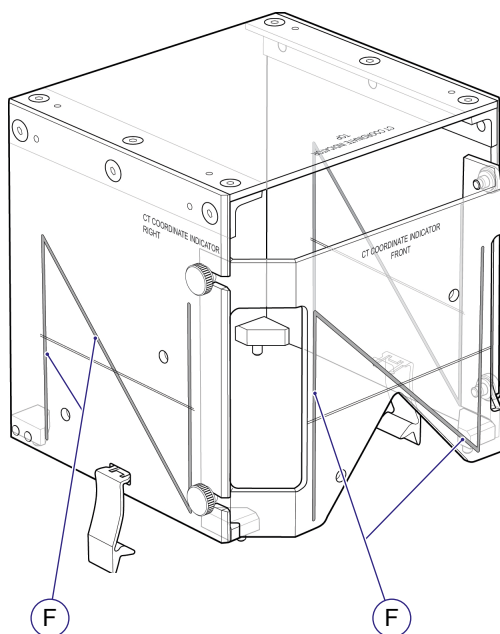

Figure 4.6 CT Indicator box
A CT indicator box for a Leksell® Coordinate Frame G treatment has a Z-shaped fiducial (F) frame embedded within each panel. The fiducial frames are manufactured from a high contrast copper material. This is illustrated in Figure 4.6.